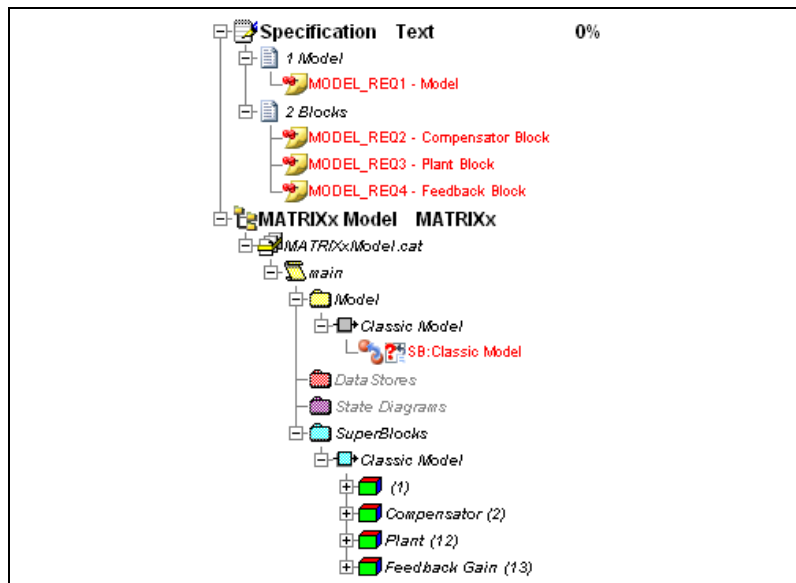

Figure 7-1. MATRIXx Document Expanded in the Management View
16. Expand the two documents in the Management View, as shown in Figure 7-1. Requirements Gateway displays the superblocks under the MATRIXx Model document.